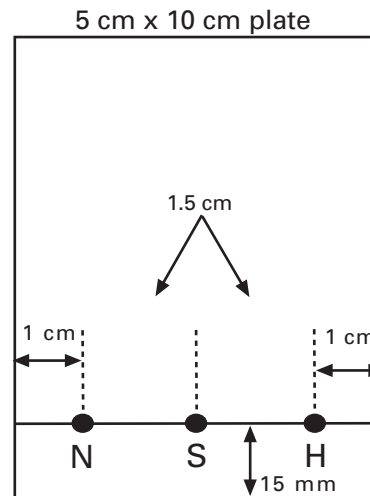

Figure 1
- Each group or pair of students should prepare a thin-layer chromatography plate for the next day’s activity. Tell students to turn the plate white-side-up. Direct students to use a pencil and ruler to make a **very light** line 15 mm from one side of the plate, as shown in figure 1. It is important that students use a pencil to draw lightly on the plate. Alcohol dissolves ink which would migrate up the plate, staining it.